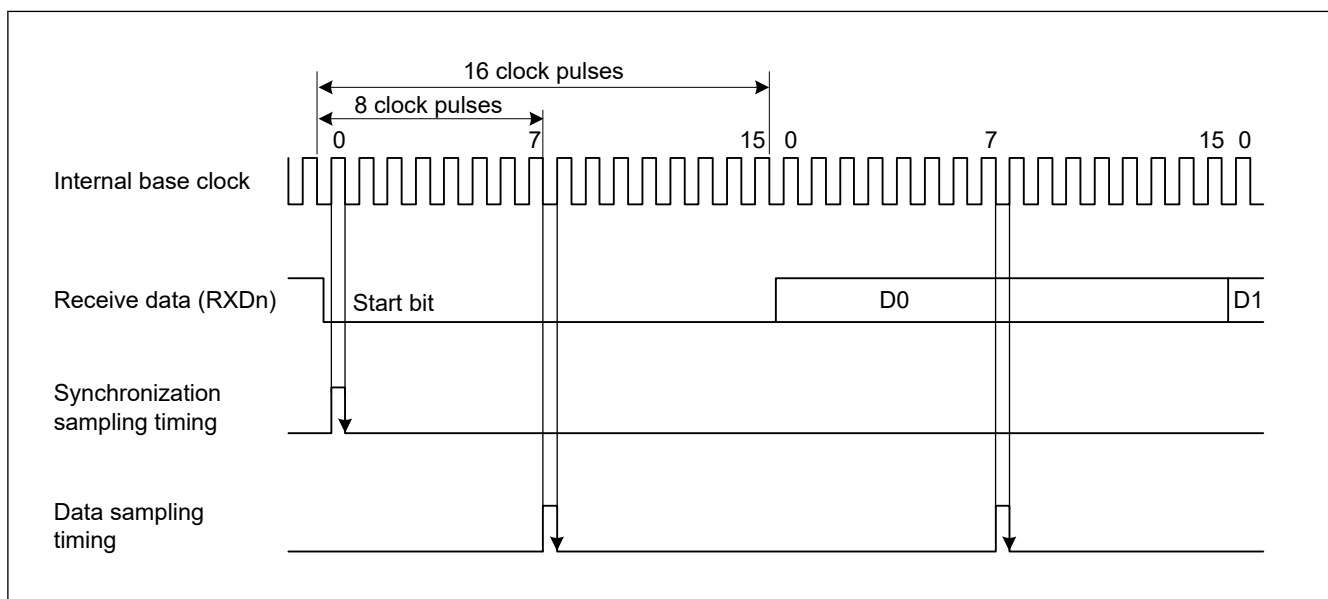

Figure 39.7 Receive data sampling timing in Asynchronous mode
Because receive data is sampled on the rising edge of the 8th pulse^{*1} of the base clock, data is latched at the middle of each bit (when sampling timing does not adjust (CCR4.ASEN = 0 or CCR4.ASEN = 1 and CCR4.AST[2:0] = 000b)), as shown in Figure 39.7 The reception margin in Asynchronous mode is determined by the following formula (1):
The determination condition of a start bit is that Low beyond half bit length continues. It is same as the sampling timing. In Figure 39.7, Low period should be kept over 8-cycles to detect a start bit. If Low period does not keep over 8-cycles, the IP judges this as a noise. So, the IP does not start reception and wait start bit.